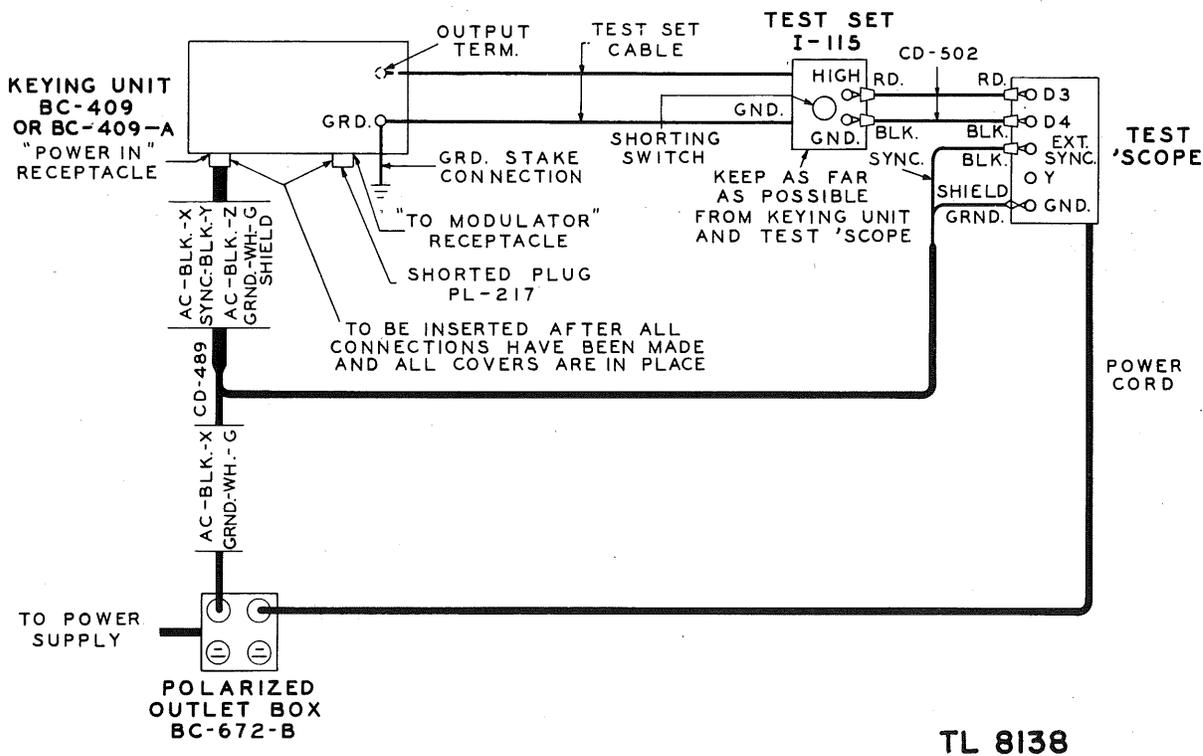

Figure 52. Test connections for artificial load test.
d. The test connections for using Test Set I-115 are shown in figure 52.